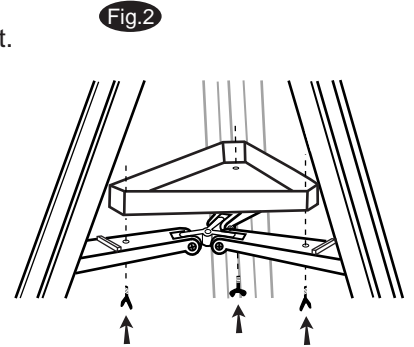

Fig.2
**ATTACHING THE ACCESSORY TRAY (Fig. 2)**